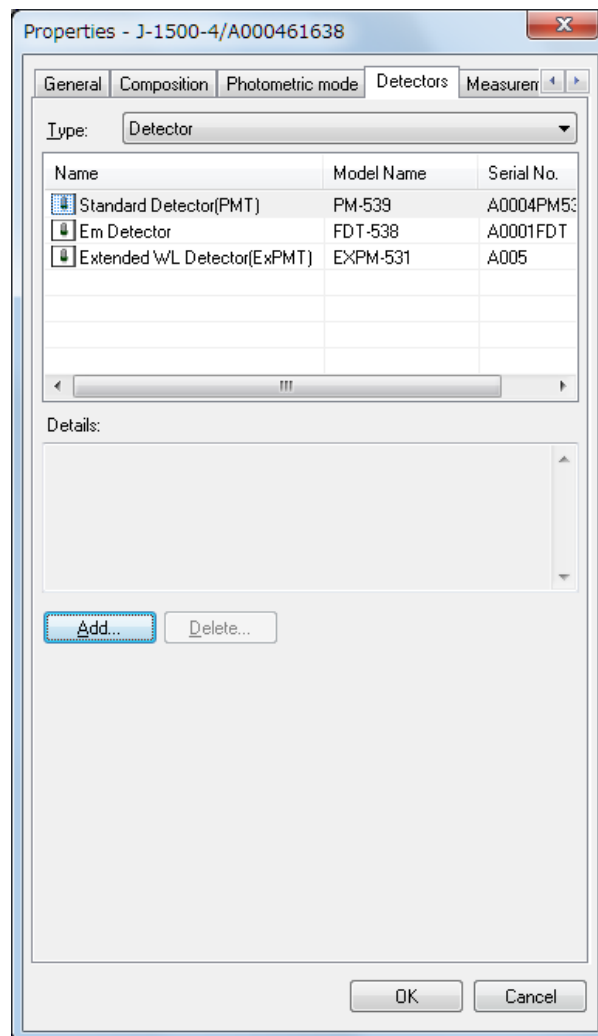

Figure 3.9 [Detectors] tab in [Properties] dialog box
- (3) [Name] is automatically entered by selecting the accessory in the [Accessory ID] drop-down list. Type the serial number and a comment as required, and then click the <OK> button to register the accessory and display it in the list of registered accessories (see Fig.3.9).